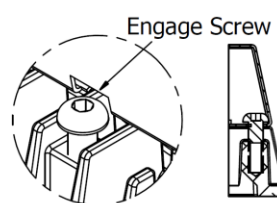
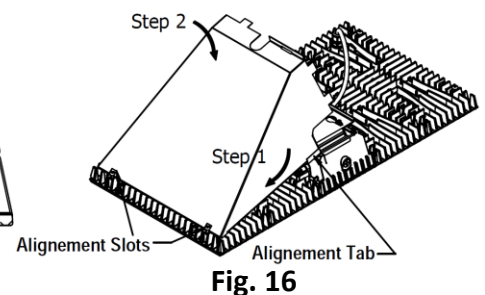

Fig. 15
Fig. 16
3. Install Bird Shroud at slight angle to engage the 1/4-20 screws previously installed. Once screws are fully inserted into the Bird Shroud slots (see figure 15), hinge opposite side of Bird Shroud down toward the housing. Make sure that alignment tabs are positioned between the heat sink fins in order to properly position and secure shroud. See figures 16 & 17.